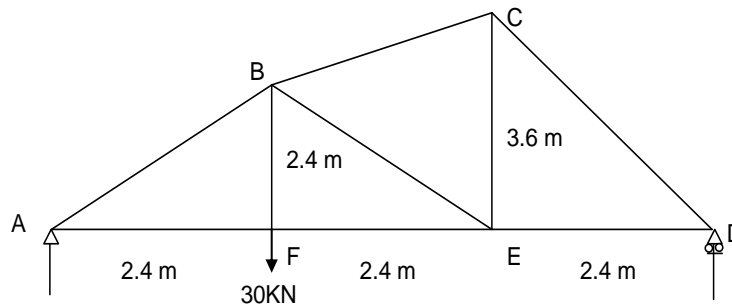

Fig. 1
12. (a) Determine the forces in all the members of the truss shown in Fig 1. by method of joints (16)